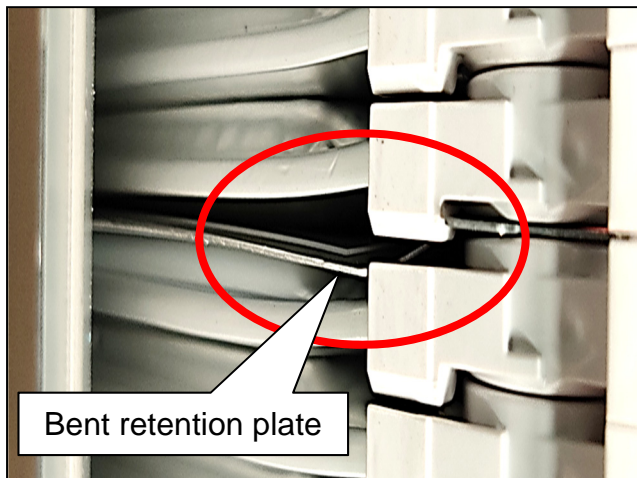

Figure 2
- If a Li-Ion battery module has a bent retention plate (Figure 2), replace the Li-Ion battery module.